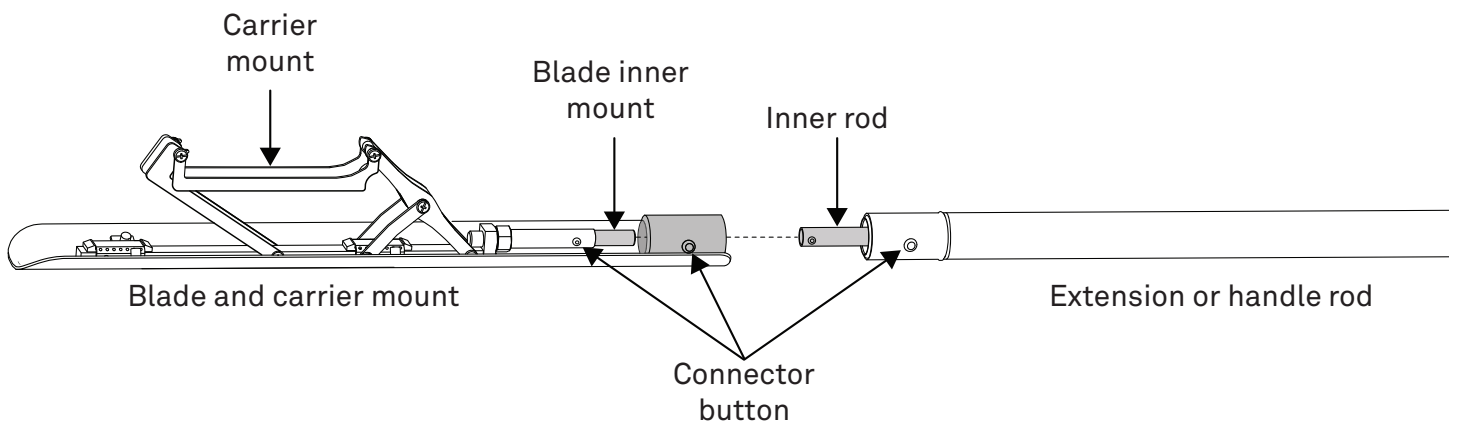

Figure 8 Connecting blade to handle or extension rod
4. Slightly extend the sensor carrier mount by moving the handle lever to the installed position to make connecting the handle rod and blade easier (Figure 8).